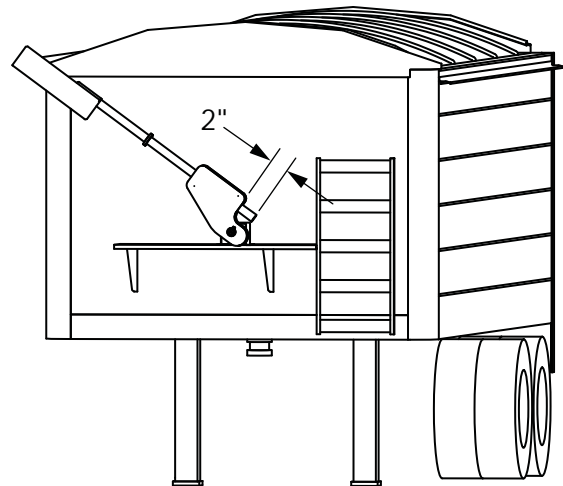

Figure 47
1) See Figure 47. When the front swing arm is extended the farthest, the bottom of the swing arm should be at least 2" away from the bottom of the pivot boot. Cut tube making sure not to cut the wires and re-drill hole for screws in collar.